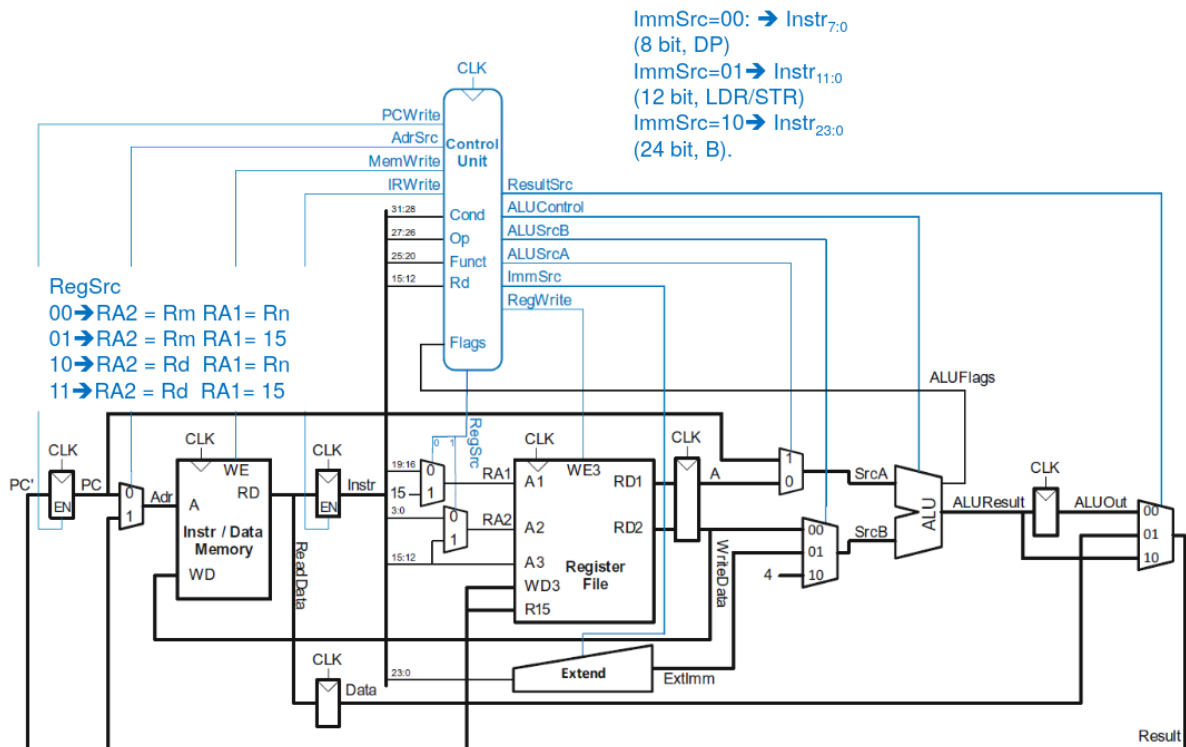

Figure 2: Multi cycle processor from the lecture notes
**Before starting this lab, you should be familiar with the multi-cycle implementation of the processor described in lecture slides.** The multi-cycle from the lecture notes is given in Figure 2. You will implement a multi-cycle processor very similar to the one in the lecture notes with a few extra instructions you should be familiar with from the previous laboratory and some design freedom.